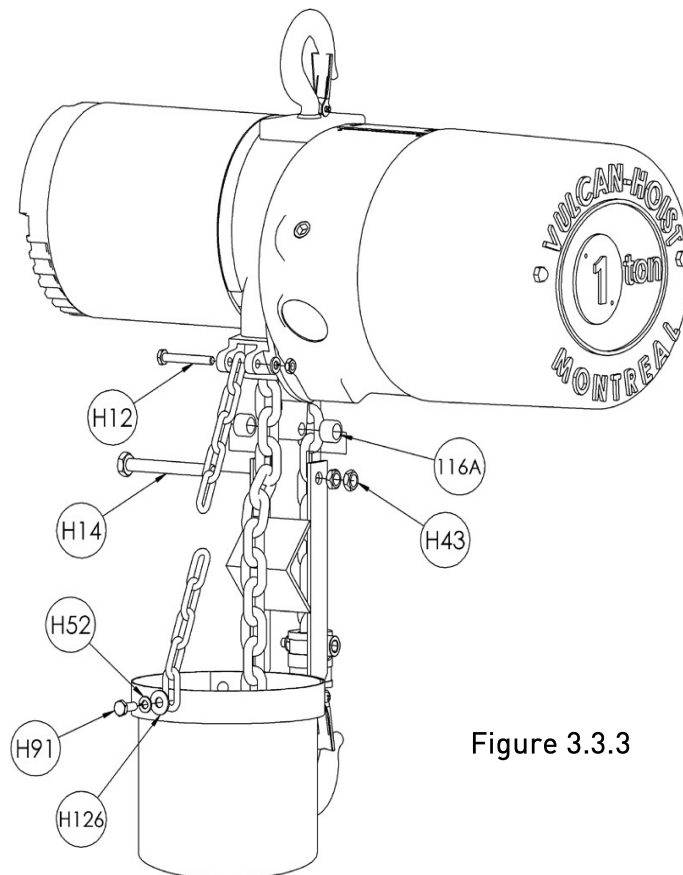

Figure 3.3.3
3. Using the bolt, attach the chain bag to the hole located at the bottom of the hoist frame. Insert bolt H14 through the chain bag and the frame hole, with one 116A bushing on each side of the hole. Tighten both H43 nuts; see figure 3.3.3 below.